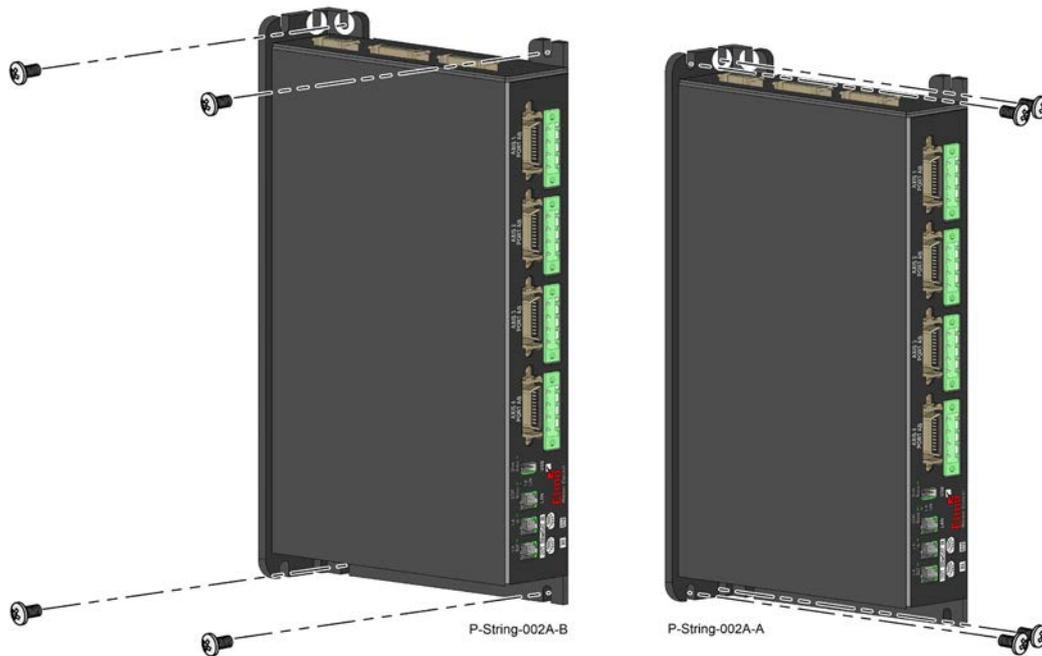

Figure 1: Mounting the Platinum String Quad (Quartet) L-Shape
- For the narrow backside mounting use four M4 screws, as shown in Figure 1 below.
- For wide-side mounting use four M4 screws, as shown in Figure 1 below. This is the recommended way to mount the L-shaped Platinum String Quad (Quartet).